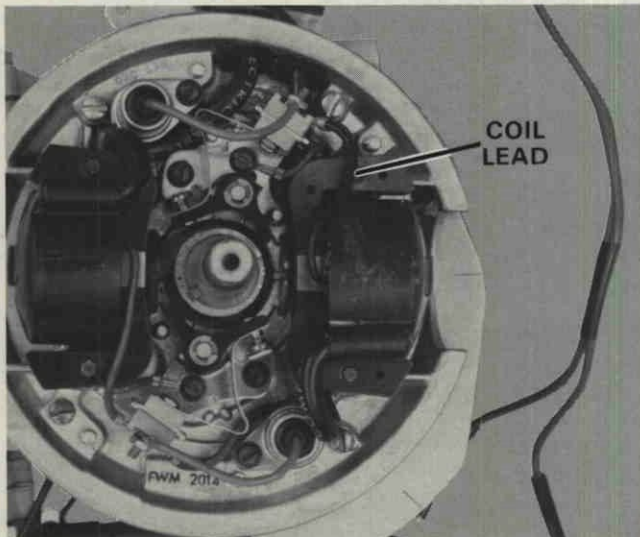

Figure 33. Removing Coil Leads.
3. Disconnect coil lead wire from terminal block at breaker point. Figure 33.
5. Connect coil ground lead wire from bottom of coil to lamination as shown in Figure 33.